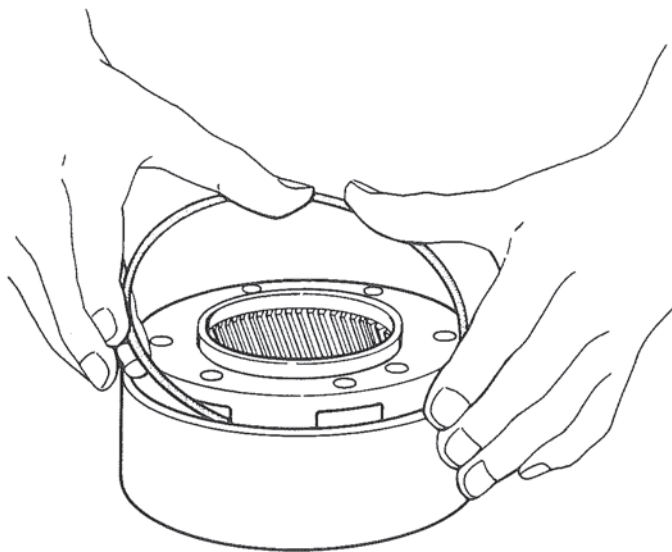

Figure 15. Assembling Snap Ring.
2. Install the snap ring firmly into the groove of the ring gear. Figure 15.